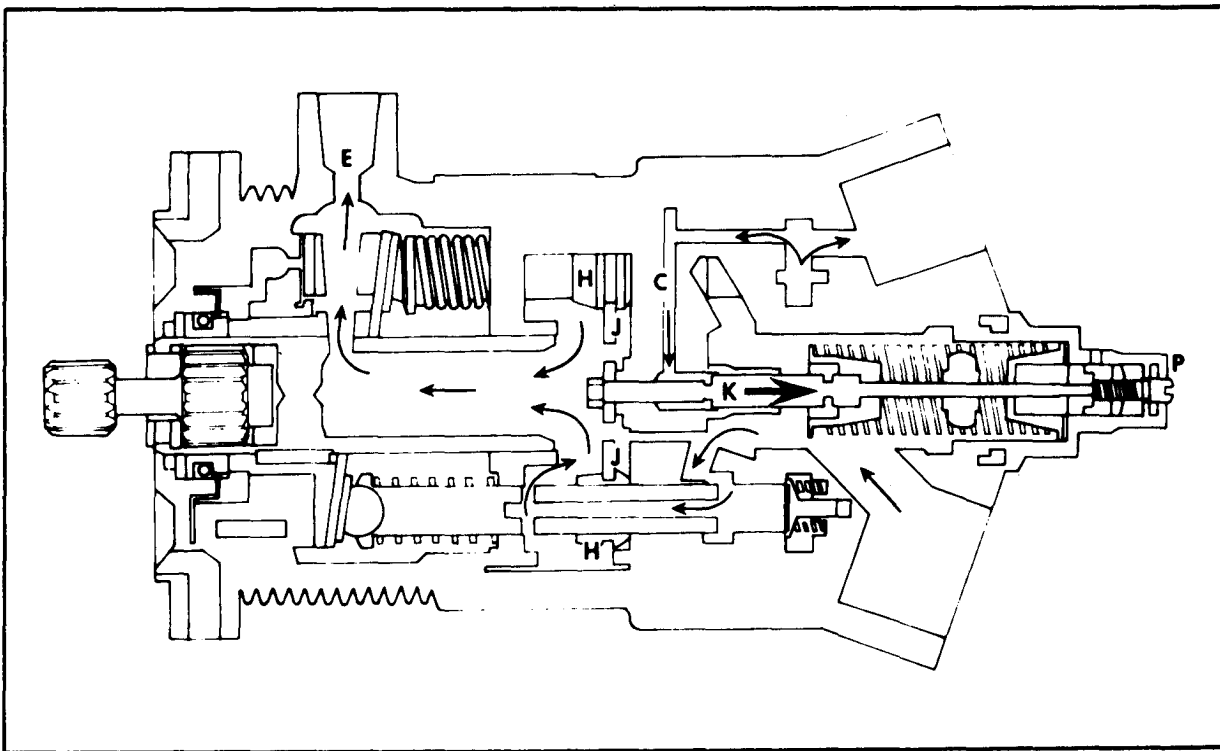

**Figure 6-5. Stratopower effective stroke pump (full-flow).**
**Stratopower effective stroke pump (variable-volume).** Figure 6-5 illustrates a full-flow stratopower pump. The drive shaft (F) rotates the cam (D). This cam causes the nine spring-loaded pistons (G) to move back and forth in their cylinders, which are in a stationary cylinder block. In operation, each piston is forced into and removed from the cylinder once for each revolution of the cam. The pistons are held in contact with the cam by piston springs which also return the pistons after each forward or power stroke. Each piston has a half-ball-bearing surface which acts like a universal linkage. The flat side contacts the cam during all angle changes. The pistons have fairly large hollow centers, connected with